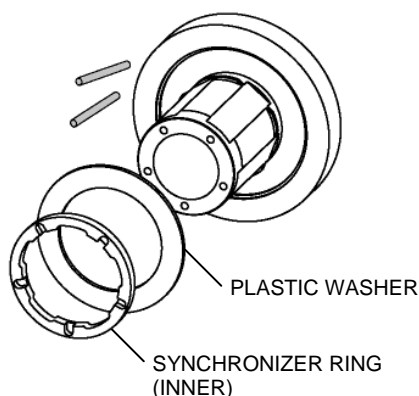

Fig. 10
7. Remove the remaining two rollers, inner synchronizer ring and plastic washer from the actuator shaft (Fig. 10). **Note:** To maintain the integrity of the assembly, do not remove the actuator shaft from the flange (if chuck is removed from machine).
1. Install the plastic washer in its slot on the actuator flange (Fig. 10).
2. Install inner synchronizer ring on the actuator with the roller slots facing away from plastic washer (Fig 10).